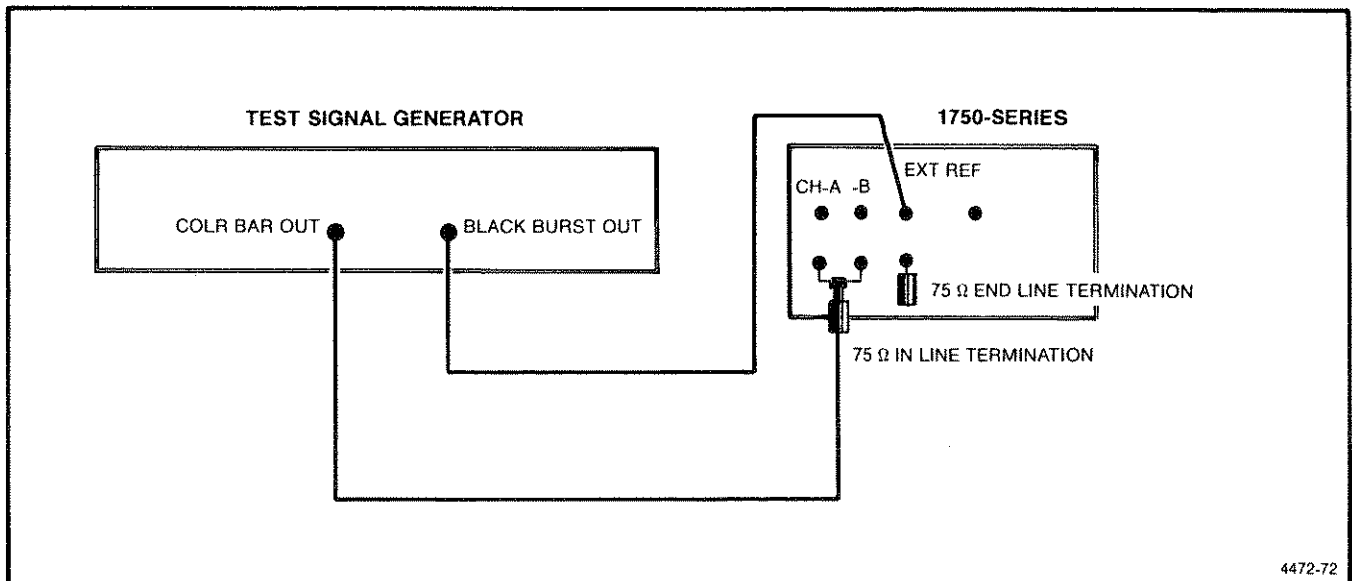

Fig. 5-5. Driving both CH-A and CH-B INPUTs with Color Bar signal.
a. See Fig. 5-5. Connect the Color Bar through a  $75\ \Omega$  coaxial cable, a  $75\ \Omega$  feedthrough terminator, and a dual input coupler to the CH-A INPUT and CH-B INPUT. Connect the Black Burst signal to the EXT REF LOOP-THRU. Select EXT REF. Display the Color Bars of INPUTs A and B alternately with the VECTOR display.